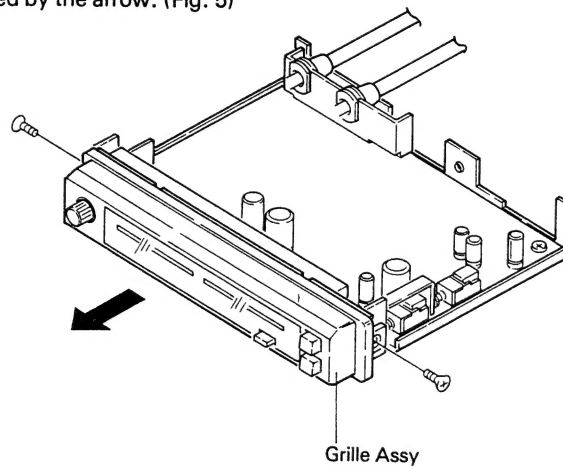

Fig. 5
1. Removing the two screws shown, then pull the grille assembly out in the direction indicated by the arrow. (Fig. 5)